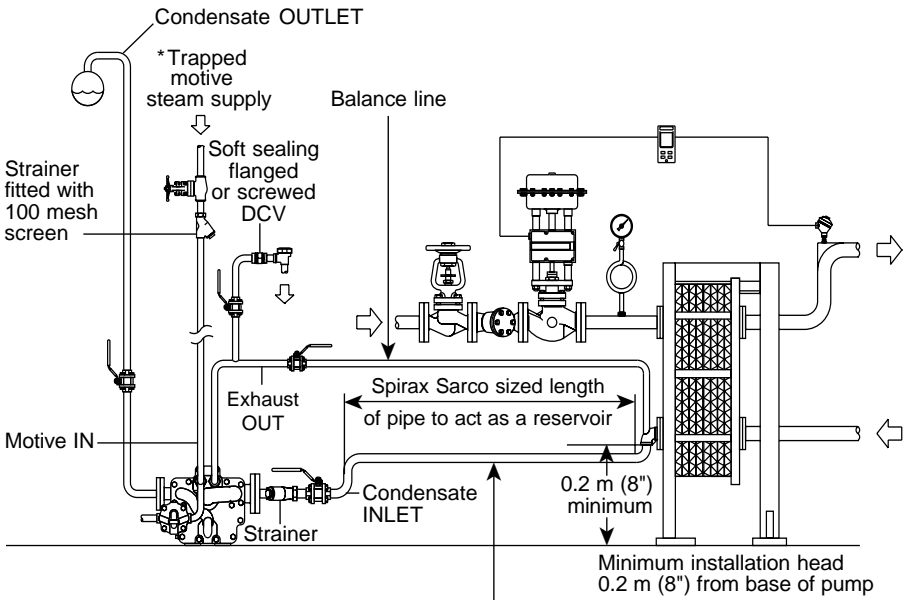

Fig. 11
To prevent condensate backing up into the equipment being drained, it is recommended that the inlet pipework is sufficiently sized to accumulate condensate during the pump's discharge cycle. Generally a length and diameter of pipe to accommodate 4 litres of condensate will be sufficient. It is recommended this condensate reservoir is situated at least 1 pipe diameter below the process outlet but as high as possible above the APT14 inlet. It is essential that a Spirax Sarco Y-type strainer with a maximum 0.8 mm perforation screen size is fitted at the condensate inlet of the APT14, as shown in Fig. 11.
The APT14 has four connection ports. The DN40 (1½") port should be connected to the outlet of the equipment being drained and the DN25 (1") port should be connected to the condensate return line. Flow arrows indicate the correct direction of flow. The DN15 (½") port marked (IN) should be connected to a trapped motive steam supply. *** It is important to ensure this line is drained of condensate at all times using a Spirax Sarco steam trap and filtered using a 100 mesh strainer.** The screwed DN15 (½") port marked (OUT) should be balanced back as close as possible to the condensate outlet of the equipment. This balance line must always be connected to the top of the condensate pipe, as shown in Fig. 11. **Note:** If a thermal cut out device has been installed to protect the heat exchanger from excess temperature, then it is important this is mounted upstream of the steam control valve and the take-off point for the motive steam supply to the APT14.